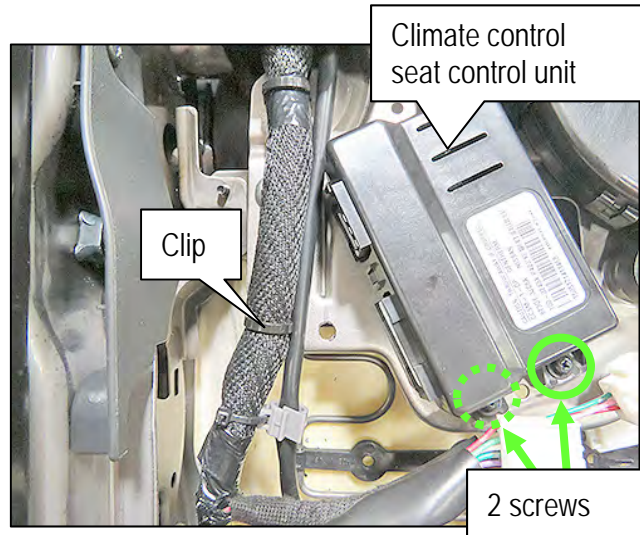

Figure 30
- Held by two (2) screws.
39. Reattach the clip removed in step 13 and shown in Figure 30.